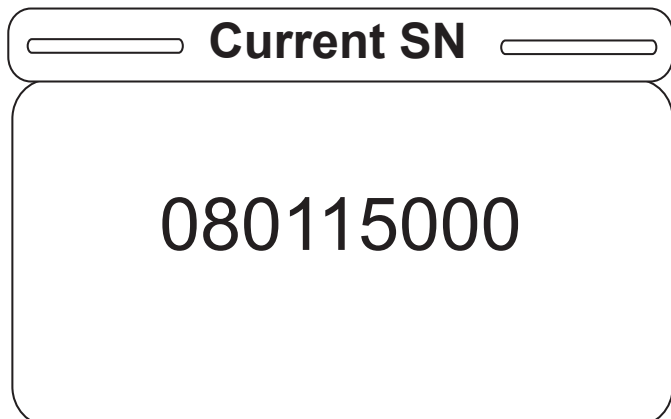

Figure S-30
28. Once a serial number is saved and the user enters the Current SN item, the screen in Figure S-30 will be displayed. The entered serial number will be displayed until the user hits the "Exit" button on the footboard panel.